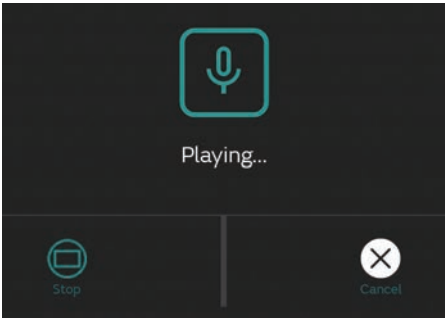

Figure 53. Stop Recording
4. Tap **Stop** to end the audio annotation (Figure 53).